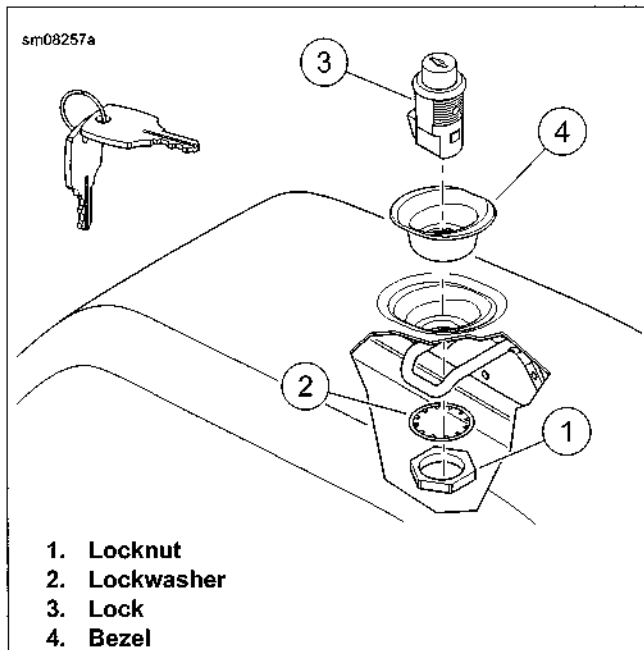

Figure 2-138. Lockset
2. See Figure 2-138. Remove locknut (1).
3. Remove lockwasher (2) and lock (3).
4. Replace bezel (4) if necessary.